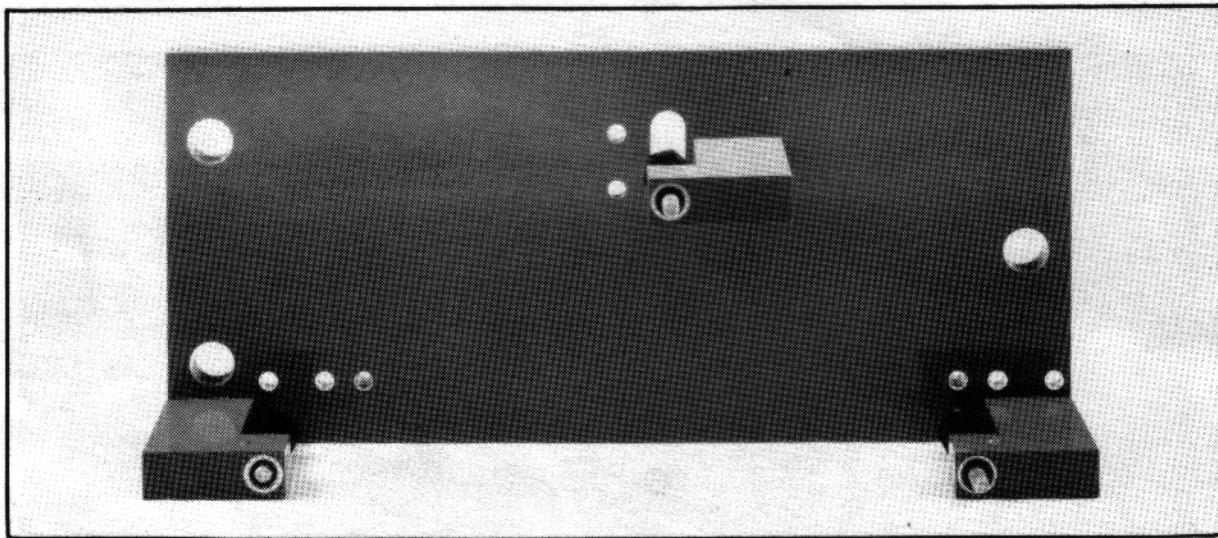

FIG. 2.6 MOUNTING ADAPTER PLATE ASSY #216-400-01
3. Remove the mounting adapter plate (see figure 2.6) secured to the main assembly. Put the mounting adapter plate on its holding leg by positioning it by the three positioning pins.